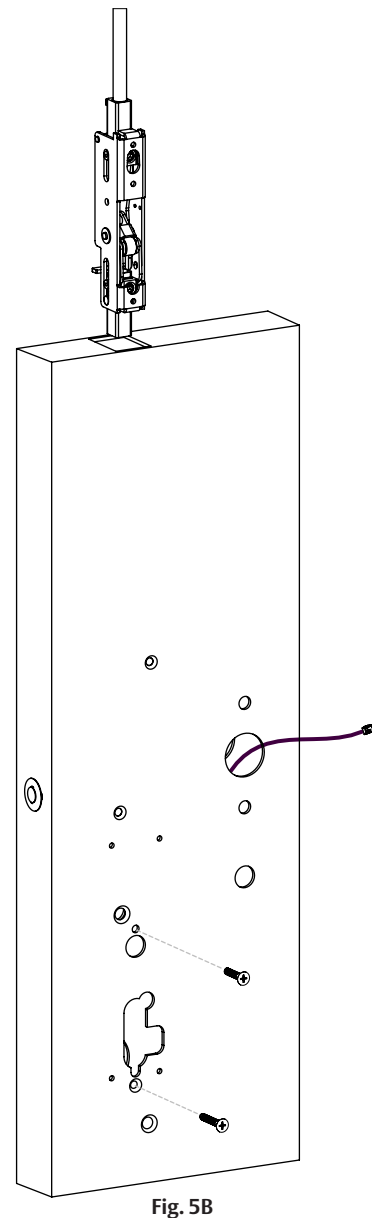

Fig. 5B
2. Slide rod assembly into door and secure with #10-24 x 3/8" screw for top inner case assembly and #10-24 x 1/2" screw for bottom inner case assembly (Fig. 5B).